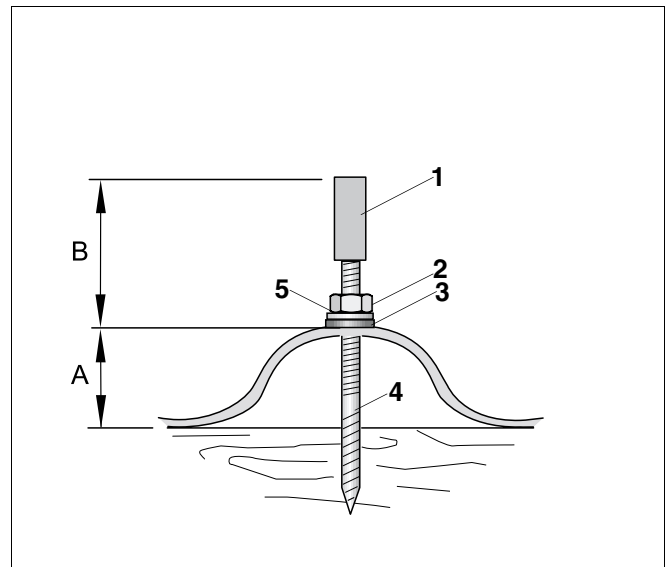

Fig. 7 Headless stud mounted on a corrugated roof
- Turn the special headless studs in, until dimension B (see Table 2 and Fig. 7) has been achieved.
- When turning the special headless studs in, please note that dimension B (Table 2 and Fig. 7) is identical for all headless studs.
- Tighten the nut (Fig. 7, **Item 2**), until the seal washer (Fig. 7, **Item 3**) fully touches the roof. This seals the drilled hole.